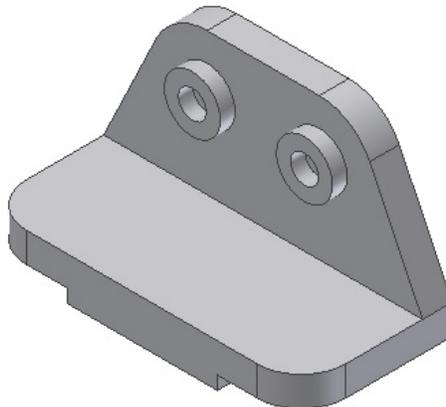

Figure 6-111 Model after creating fillets
- Create the fillet on the base feature, refer to Figure 6-111.
3. Click on the default radius value in the **Radius** column and enter **30** in the edit box displayed. Alternatively, enter **30** in the edit box of the mini toolbar. You will notice that the fillet in the preview of the model has also increased accordingly. Choose the **OK** button to exit the **Fillet** dialog box; the fillets are created, as shown in Figure 6-111.